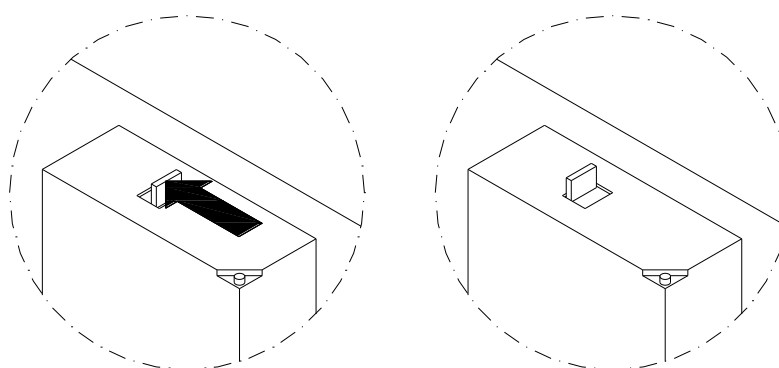

Figure 27 - Restoring the Monitoring Device
- restore the condition of proper functioning of the monitoring device as shown in Figure 27